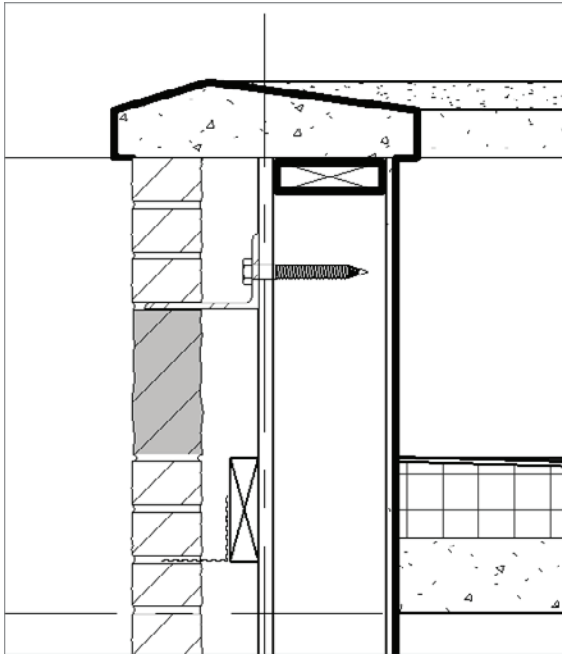

FIGURE 12.42 Rotating the blocking after copying it
3. Pick the base point of the upper-right corner, as shown in Figure 12.42.
4. Copy the blocking to the point shown in Figure 12.42.
5. Select the new blocking and rotate it into position, as shown in Figure 12.42. (You'll also have to nudge the blocking, using the arrow keys to center it into the wall.)